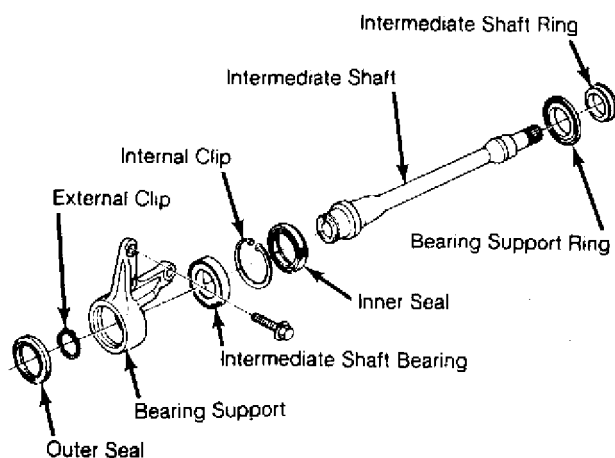

Fig. 5: Exploded View Of Intermediate Shaft Assembly (Typical)
2) Remove intermediate shaft inner seal, and remove 58-mm internal circlip. Press intermediate shaft bearing out of bearing support. Inspect all components for wear and damage, and replace components if necessary. See Fig. 5.